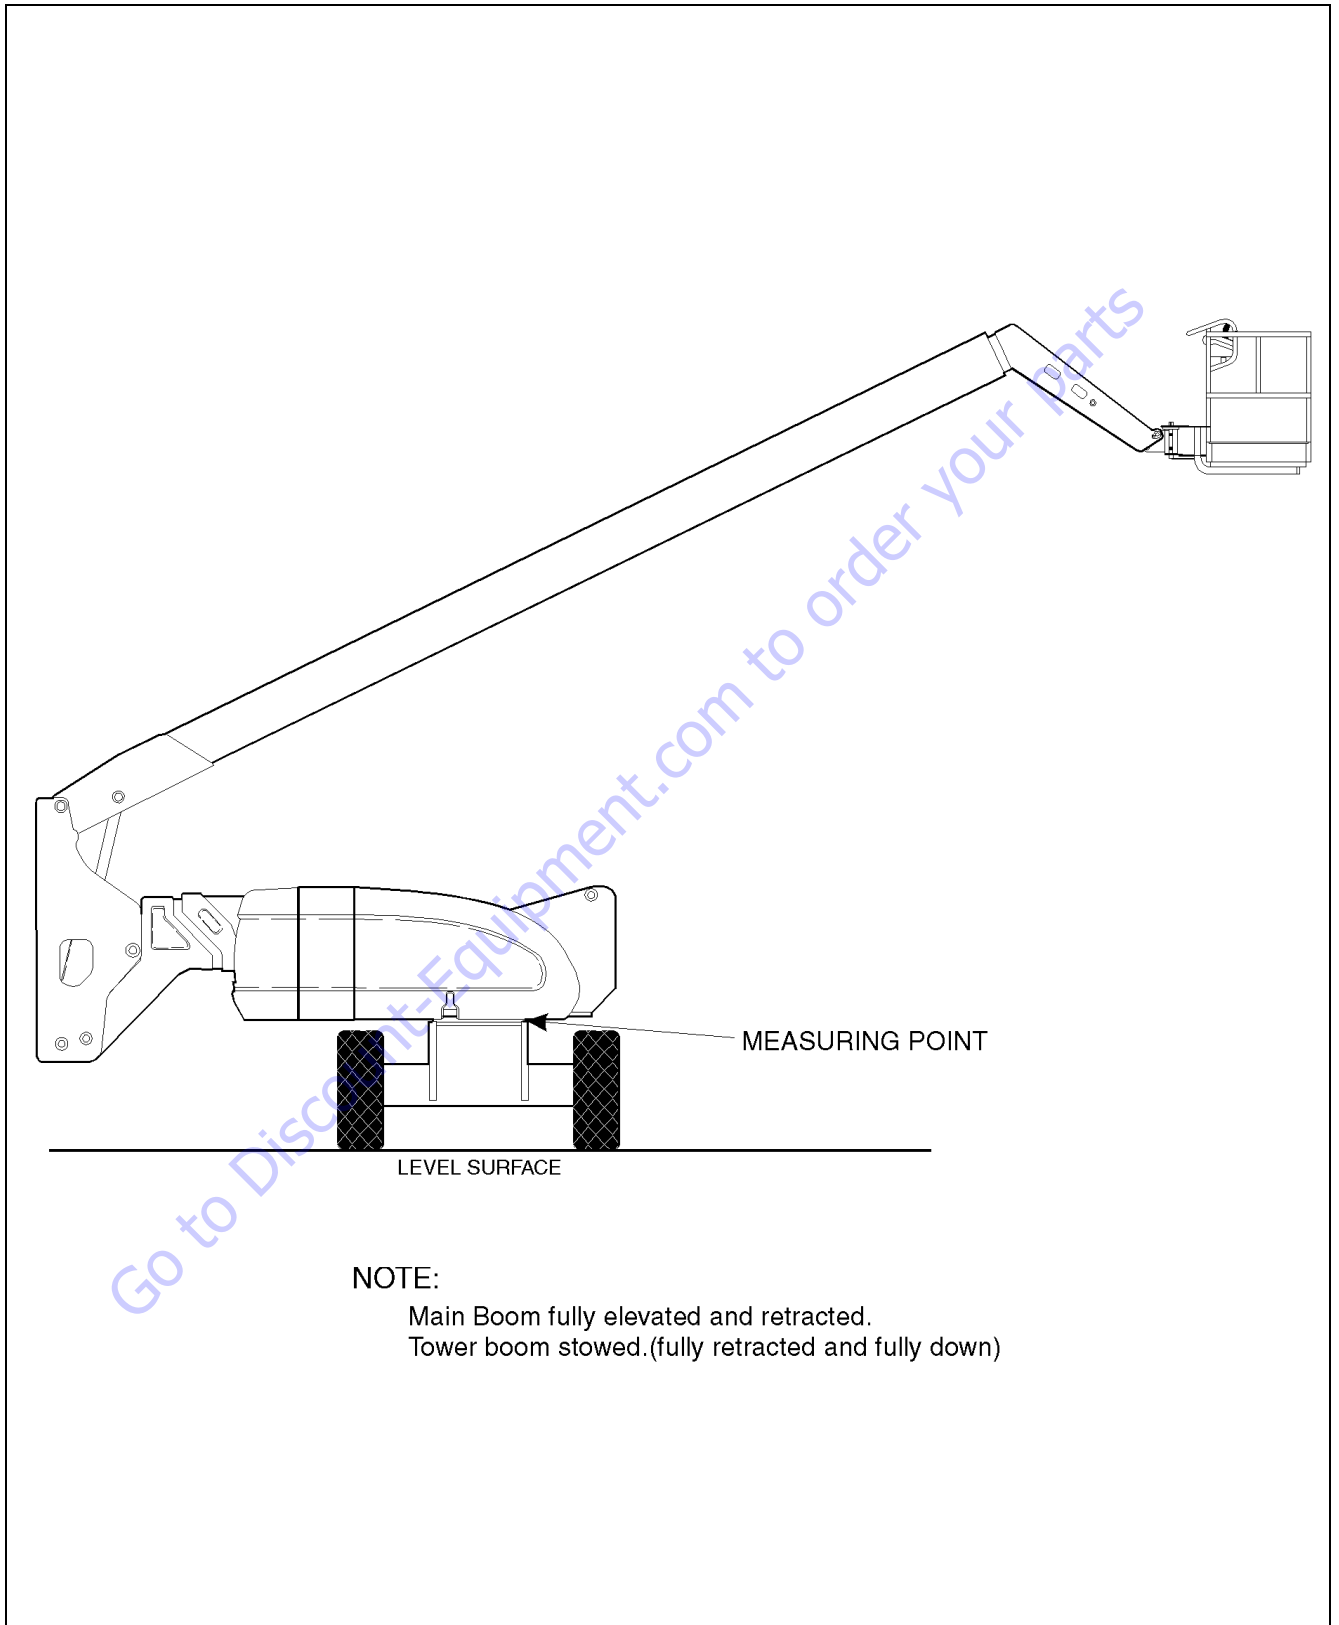
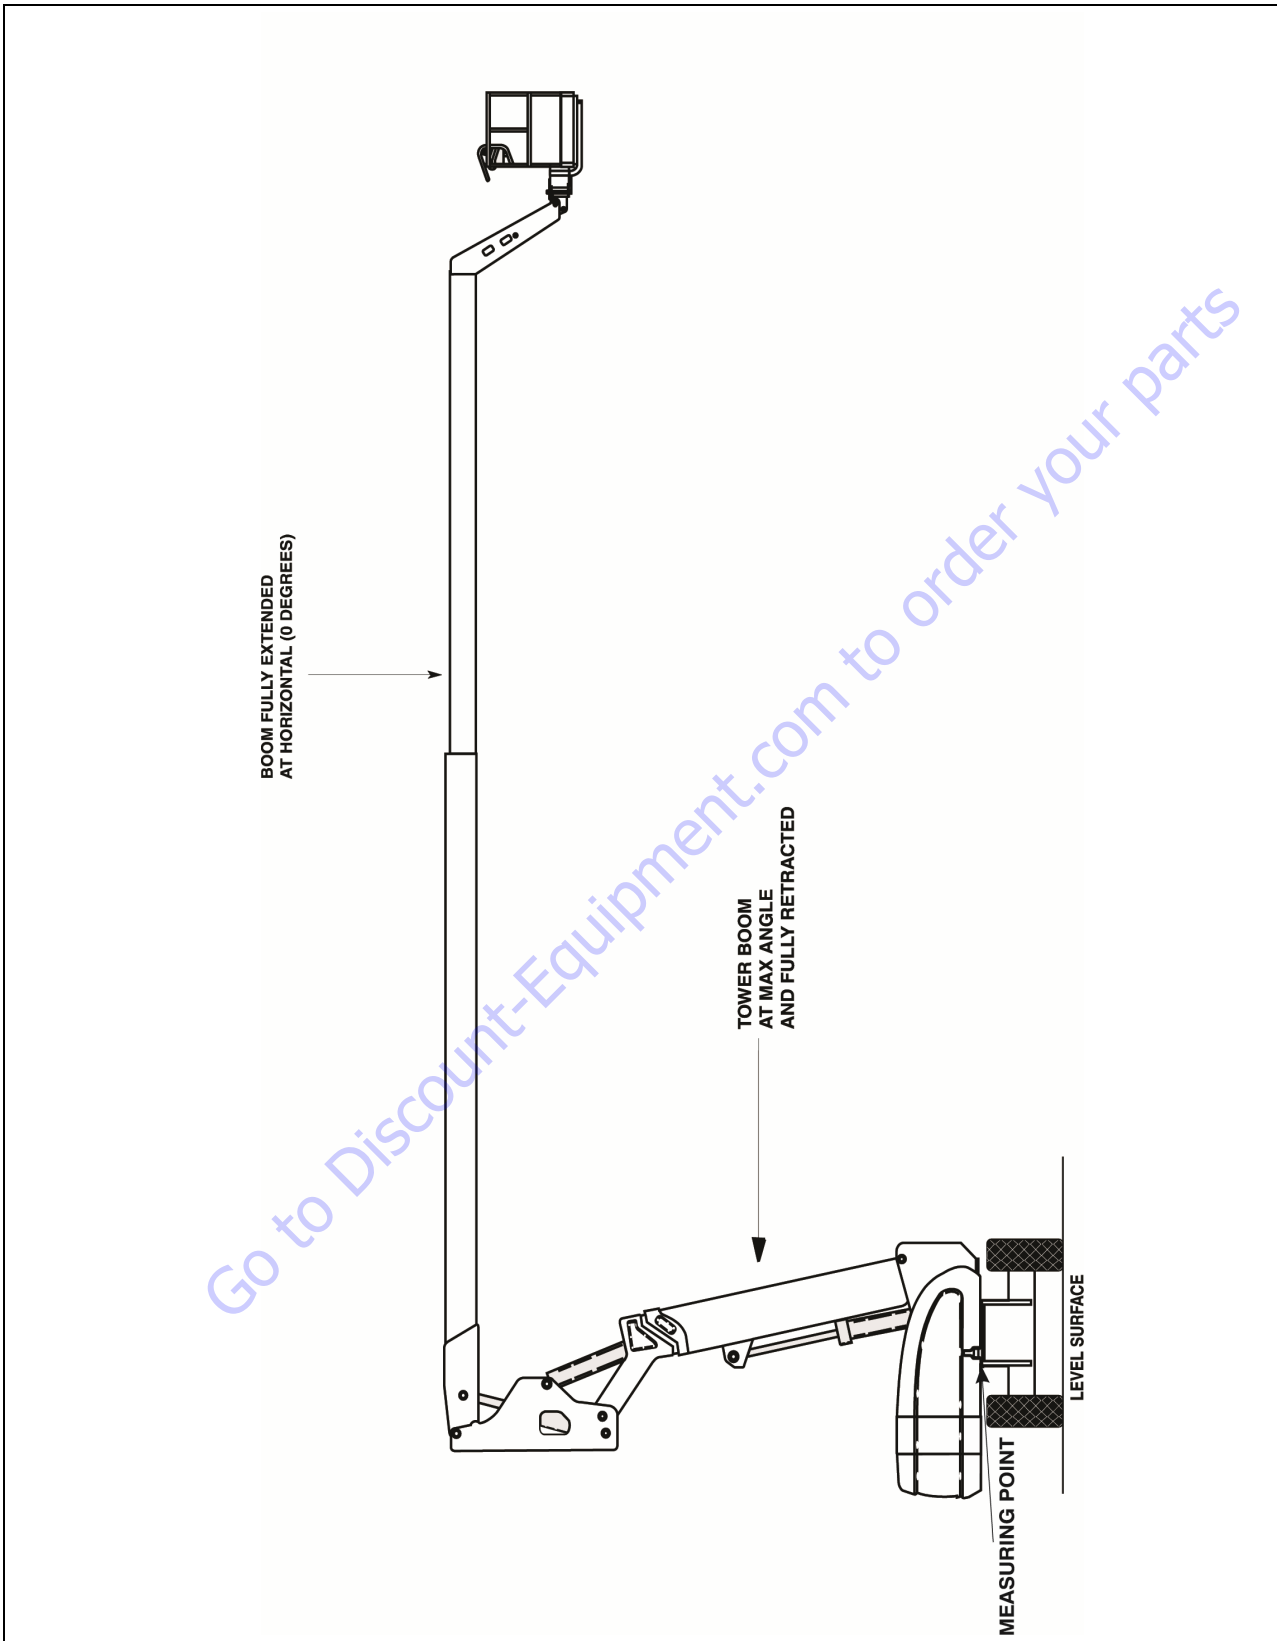
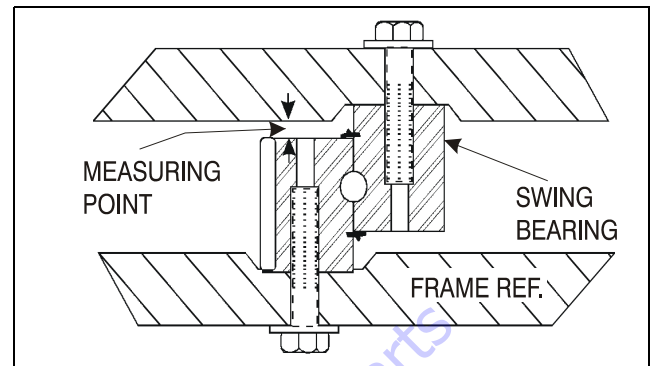

Figure 3-33. Swing Bearing Tolerance Boom Placement (Sheet 1 of 2)
Figure 3-34. Swing Bearing Tolerance Boom Placement (Sheet 2 of 2)
Figure 3-36. Swing Bearing Tolerance Measuring Point
- a. Elevate the fully extended upper boom to horizontal. (See Figure 3-34.)
- b. At the position indicated on Figure 3-33. try to insert the 0.0015" feeler gauge between the bolt head and hardened washer at the arrow indicated position.
1. From the underside of the machine, at rear center, with the upper boom fully elevated and fully retracted, and tower boom stowed, as shown in Figure 3-33., Swing Bearing Tolerance Boom Placement (Sheet 1 of 2), using a magnetic base dial indicator, measure and record the distance between the swing bearing and turntable. See Figure 3-36., Swing Bearing Tolerance Measuring Point
2. At the same point, with the upper boom at horizontal and fully extended, and the tower boom fully elevated and fully retracted as shown in Figure 3-34., Swing Bearing Tolerance Boom Placement (Sheet 2 of 2). Using a magnetic base dial indicator, measure and record the distance between the swing bearing and turntable. See Figure 3-36., Swing Bearing Tolerance Measuring Point